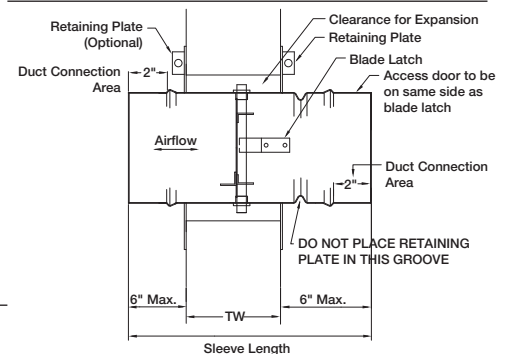

Figure 2 — Clearance Requirements
1. Cut wall/floor opening so that it is a minimum of 7/8 inch larger than the outside diameter of your fire damper to allow for expansion during periods of intense heat. Refer to Figure 2.
3. Insert your damper/sleeve assembly into the prepared opening to appropriate depth. Refer back to Figure 2 for recommended depth.
NOTE: Do not position the retaining plate in the damper frame groove. Refer back to Figure 2.